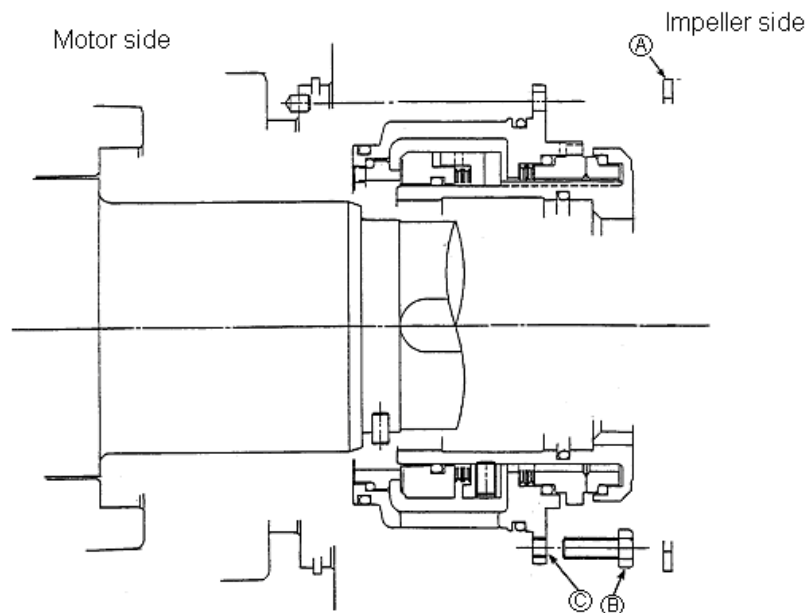

Fig. 24
(3) Mechanical seal replacement (Refer to Fig. 24)
- (a) Remove the snap ring (A) from intermediate casing.
- (b) Remove the mechanical seal by using push bolts (B).